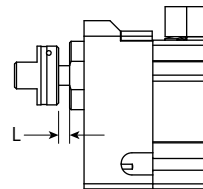

FIGURE 5
1. Mount the coupling hub half **5** on the ESU shaft. Make sure to maintain the gap, as shown in Figure 5, between the coupling hub and the pilot on the linear actuator. Tighten the cap screw with the recommended torque.